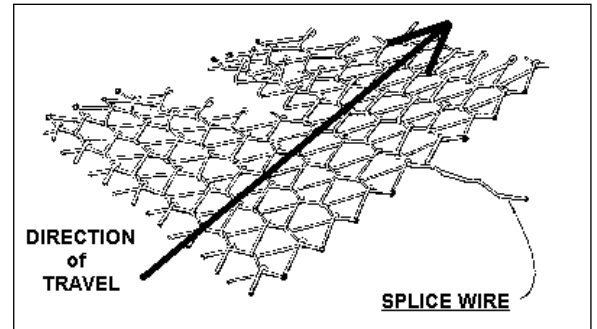
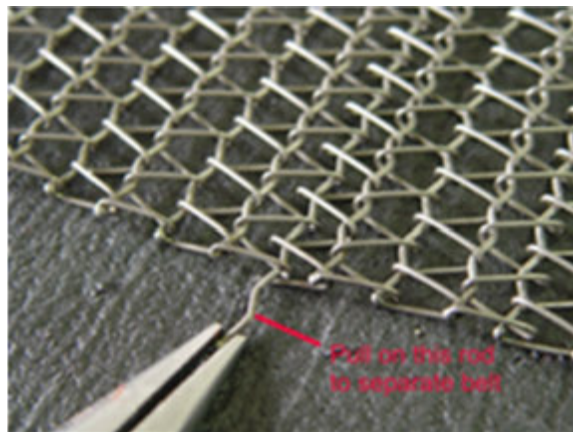
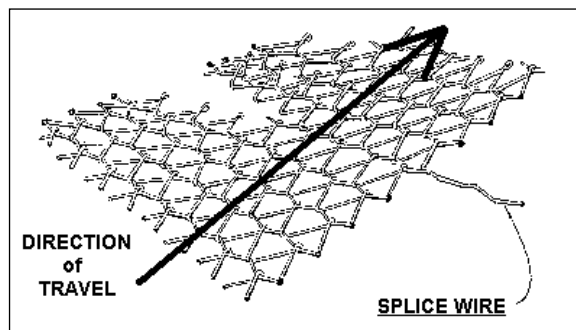

Figure 7-17 Belt Splice
Figure 7-20 Insert Splice Wire
Figure 7-21 Belt Splice
1. Place the new belt section parallel and slightly overlapping the edge of the remaining belt on the furnace. Make sure to orient the belt as shown in Figure 7-17 **Error! Reference source not found.**
2. Splice as shown in Figure 7-17 and Figure 7-20 by inserting one of the cross-section wires through the belt mesh across the width of the belt. Insert a second wire at the other end of the splice to the rest of the belt.
2. Splice the belt by inserting one of the cross-section wires through the belt mesh across the width of the belt as shown in Figure 7-20 and Figure 7-21 .